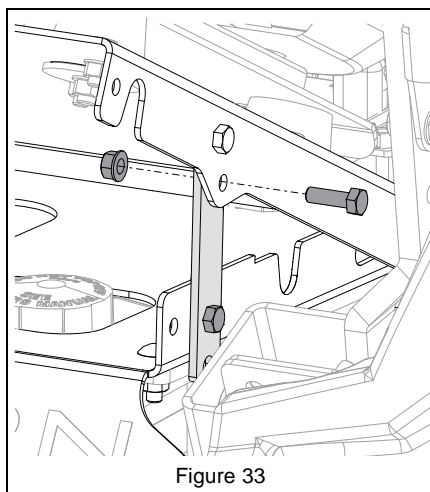

Figure 33
6. Secure seat bracket to seat plate using hardware removed in step 4. Repeat on opposite side of unit. See Figure 33.